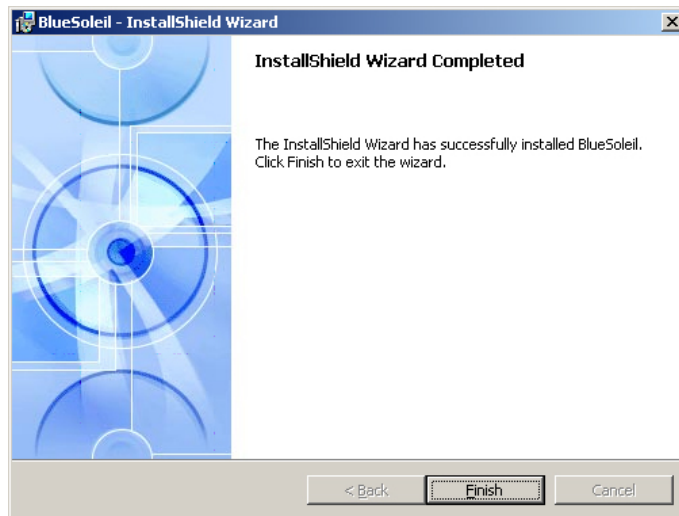

Figure 7-41: Bluetooth Driver Complete Installation Screen
Step 9: When the installation process is complete, the Setup Complete screen appears. See **Figure 7-41**.